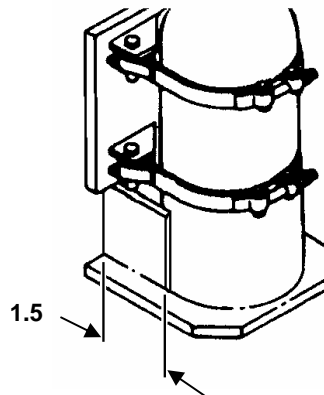

Figure 3-1. Fire Extinguisher Bottle Holder Shield
Steps d through f below apply to Figure 3-1.
- d. Using suitable aluminum cutting tool, cut right side fire extinguisher bottle holder shield from holder, leaving 1.5 inches on each side (Figure 3-1).